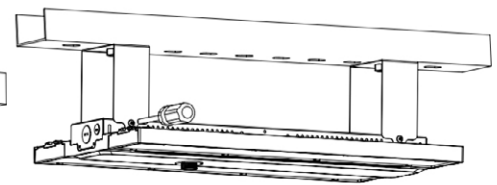

Figure 8
2. Assemble the lamp on the bracket and fix it with screws (See Fig. 8)